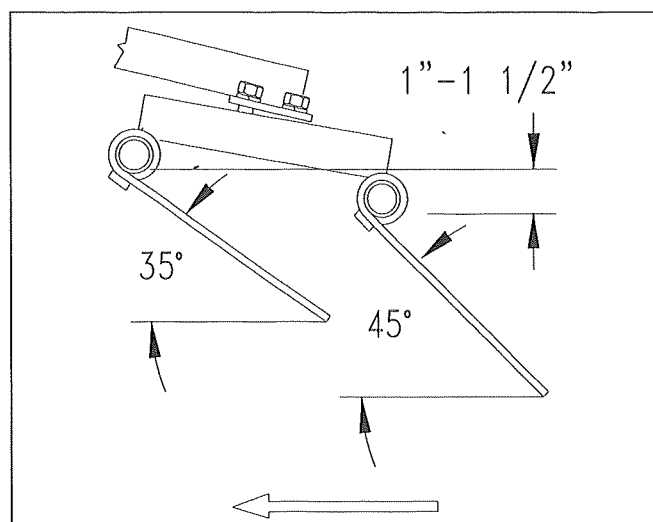

Figure 29
**Spring Tine Harrow****Harrow Tine Angle****Refer to Figure 29**